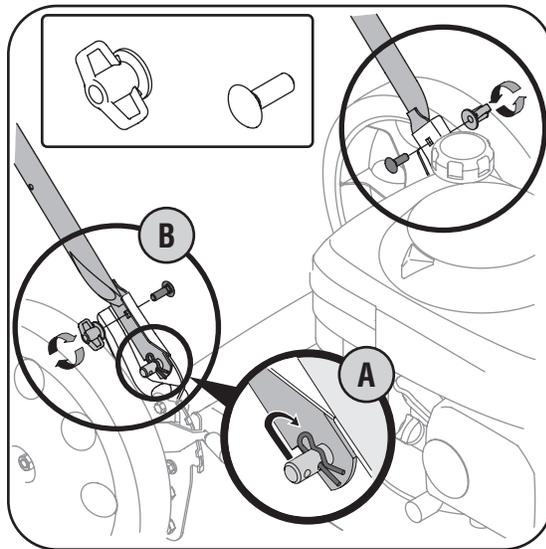

Figure 2
- b. Place one carriage bolt (found in the hardware pack included with your unit) in the upper hole of the right handle mounting bracket from the inside outward. See Figure 2. Secure with one star knobs. Repeat process on the left side.